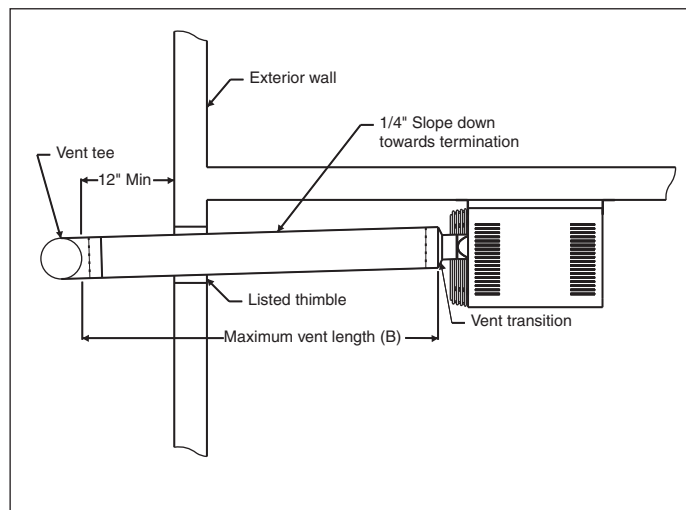

Figure 9.3
① One of the two allowed elbows is required to create the vent extension shown in figures 9.3 and 9.4.
② The vertical rise gained from an elbow is 4". Therefore, 4" may be subtracted from the length of vertical pipe needed in the vent extension. If the minimum vertical rise required is 4" you do not need to add a section of vertical pipe to the vent extension.